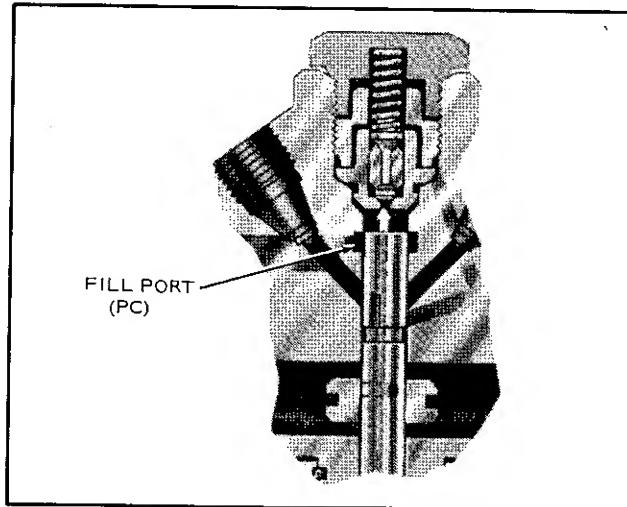

FIGURE 3-39. PORT CLOSING
9. Stop flywheel rotation at exact point fuel stops flowing from No. 1 line into container (one drop in 2 to 5 seconds). This point is the port closing time of the injection pump plunger regardless of flywheel position, Figure 3-39.